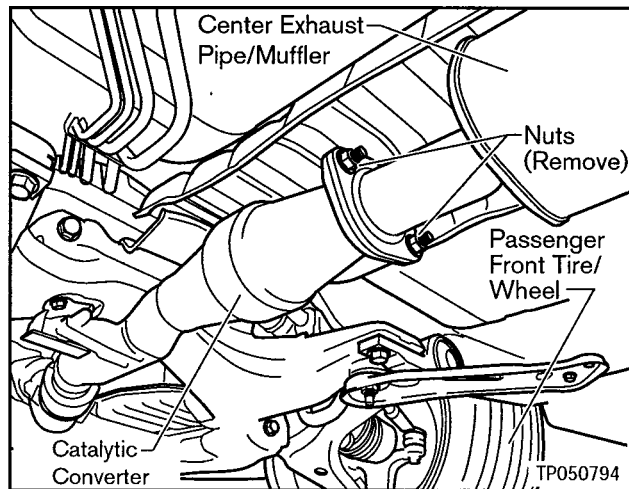

Figure A4
- a. Remove two nuts that hold the center exhaust pipe/muffler to the catalytic converter (see Figure A4).